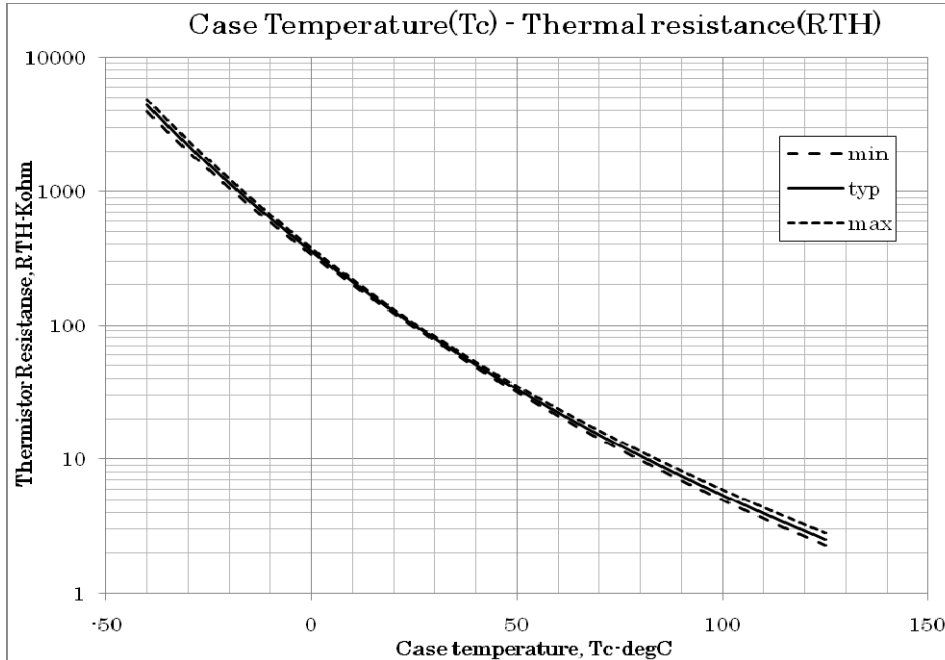
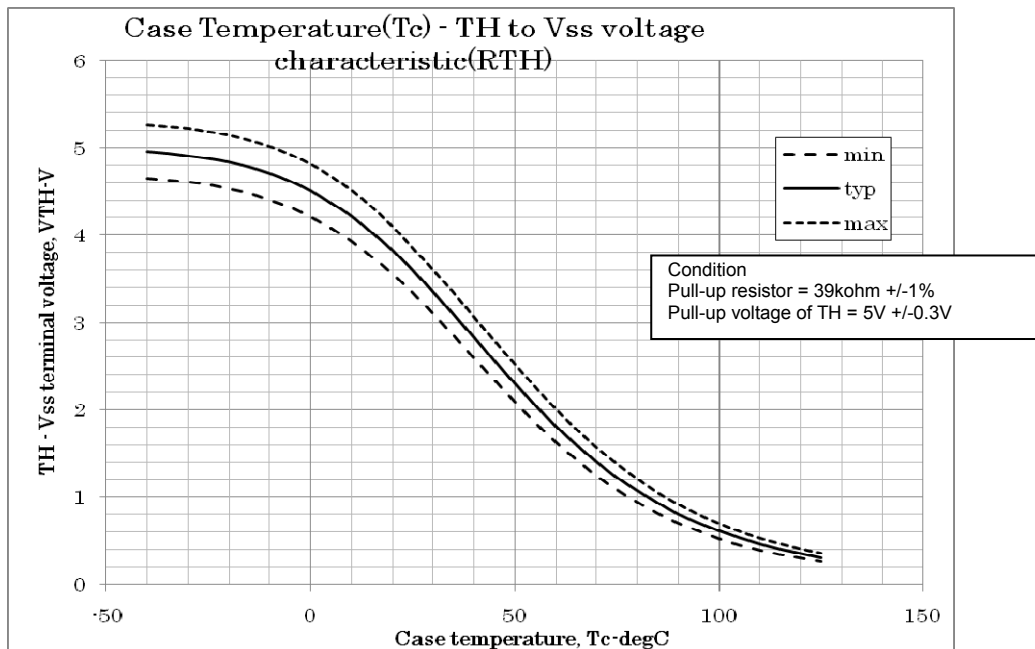

Fig.11 Variation of thermistor resistance with temperature
Fig.12 Variation of temperature sense voltage with thermistor temperature
4. Inside the H-IC, a thermistor used as the temperature monitor for internal substrate is connected between “TH1” and “TH2”. Generally, one of terminals is connected to VSS, and the other is pulled up to external power supply with pull-up resistor (Rp) externally. The temperature monitor example application is as follows please refer the Fig.11 and Fig.12 below.